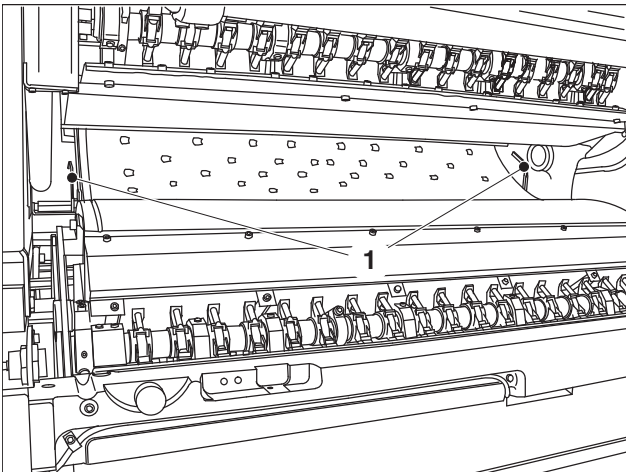

Fig. 22 Locking device of the sheet guide plate
4. Open the locking device (Fig. 22/1) on D.S. and O.S.